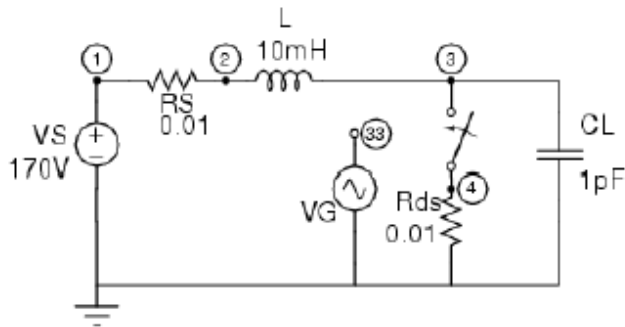
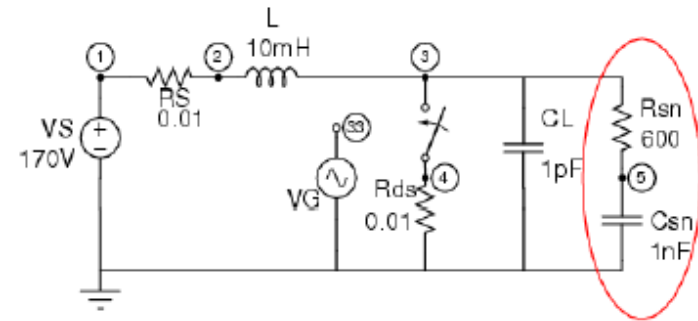
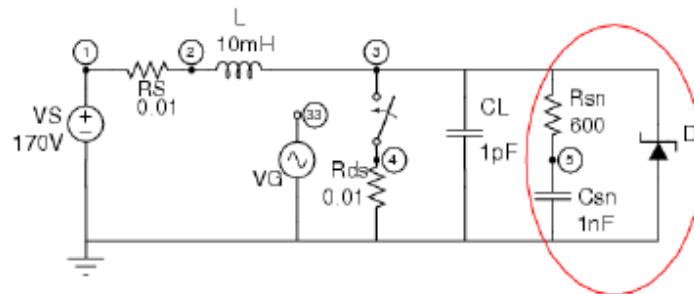

Figure 9: Inductive Load Circuit
Figure 10: Inductive Load Circuit with Snubber
Figure 11: Inductive Load Circuit with Snubber and Zener Diode
- To combat this problem snubber circuits can reduce or eliminate any severe voltages and currents. Composed of simply a resistor and capacitor placed across each switch it allows any current or voltage spikes to be suppressed by critically dampening the surge and protecting the switch from damage. The snubber can become more effectively by the addition of a zener diode so that any large current surge the resistor-capacitor snubber cannot handle gets passed through to ground by the zener diode. The diagram in Figure 9 shows a simple representation of an inductive load (L) over a switch representation, Figure 10 and Figure 11 show how snubbers can be implemented so that a surge will be suppressed.